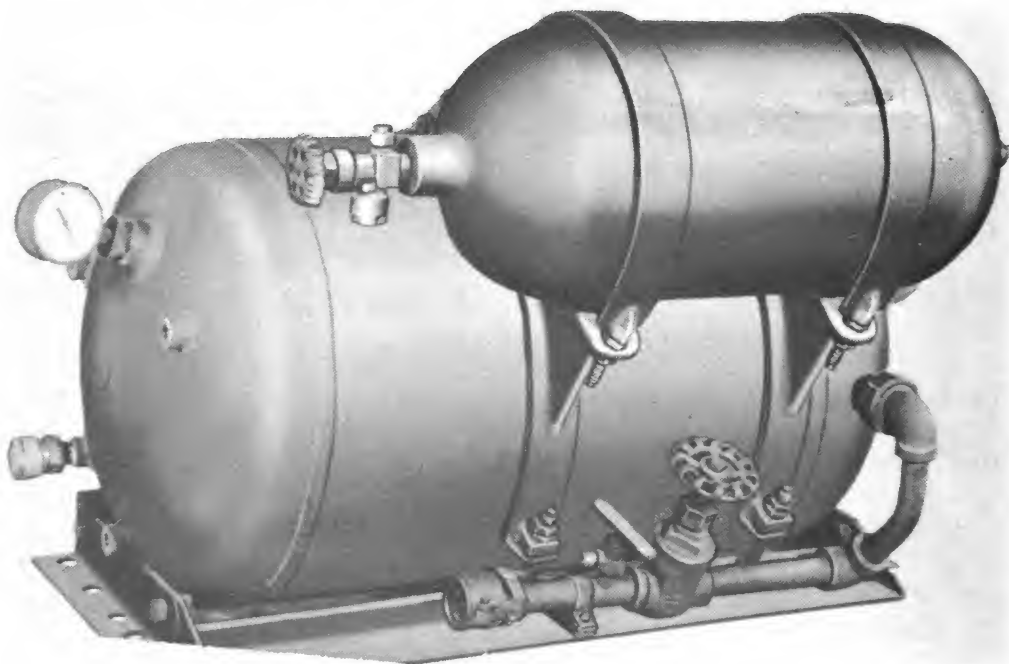

Fig. 19. Pressure container held in place by pressure container straps.
f. Pressure container. (1) Pass pressure container through assistant driver's door. Slide pressure container through the two pressure container straps. To ease this operation, fuel group may be shifted on sponson shelf to obtain clearance. Do not secure pressure container at this time; allow it to rest in straps (fig. 19). Remove thread protector cap.
(2) Turn fuel group so that its front end extends slightly over edge of sponson shelf.
g. Pressure line plate. (1) Pass pressure line plate, three stud bolts, three washers, loop, and synthetic rubber washer through assistant driver's door.